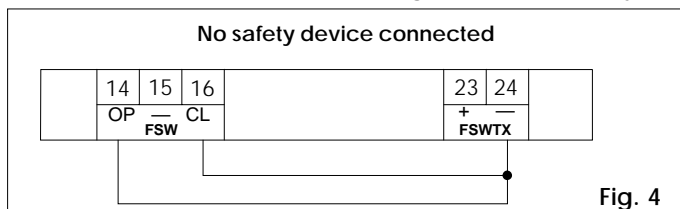

Fig. 4
**N.B.:** If opening safety devices are not connected, jumper inputs **OP** and **FSW TX** (Fig. 4).
**N.B.:** If closing safety devices are not connected, jumper inputs **OP** and **FSW TX** (fig. 4).